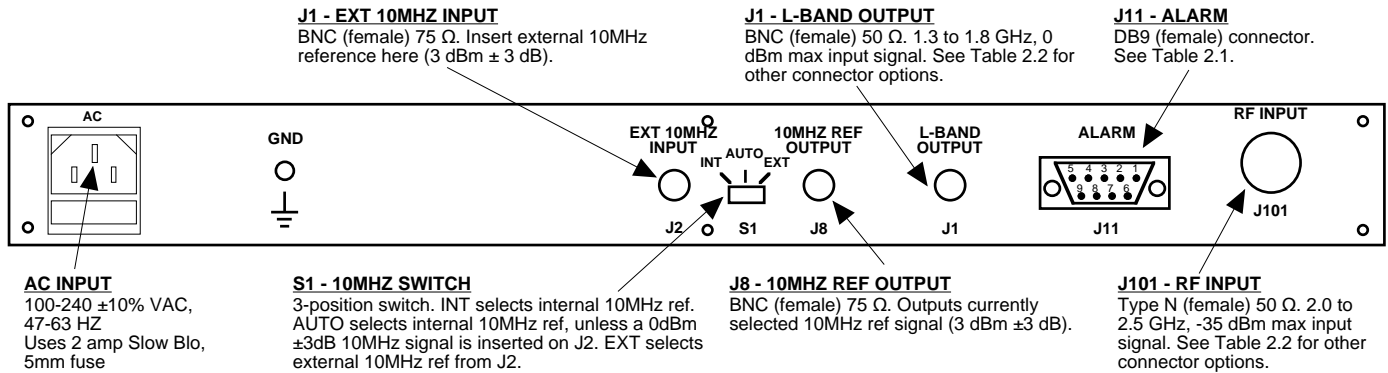

FIGURE 2.1 2116-25 Rear Panel I/O's
2.2 Rear Panel Input/Output Signals - Figure 2.1 shows the input and output connectors on the rear panel.
- 1.) Connect a -55 dBm to -35 dBm signal to RF INPUT, J101 (Figure 2.1).
- 5.) Select either INT (for internal 10MHz ref), AUTO (for internal 10MHz ref UNLESS a external 10MHz, 0 dBm signal is connected to J2), or EXT (for external 10MHz, 0 dBm ref that is inserted at J2) on rear panel switch S1 (Figure 2.1).
- 7.) Check that a 10MHz, 0 dBm \pm 3 dB signal is present at the 10MHZ REF OUTPUT (J8) (Figure 2.1).